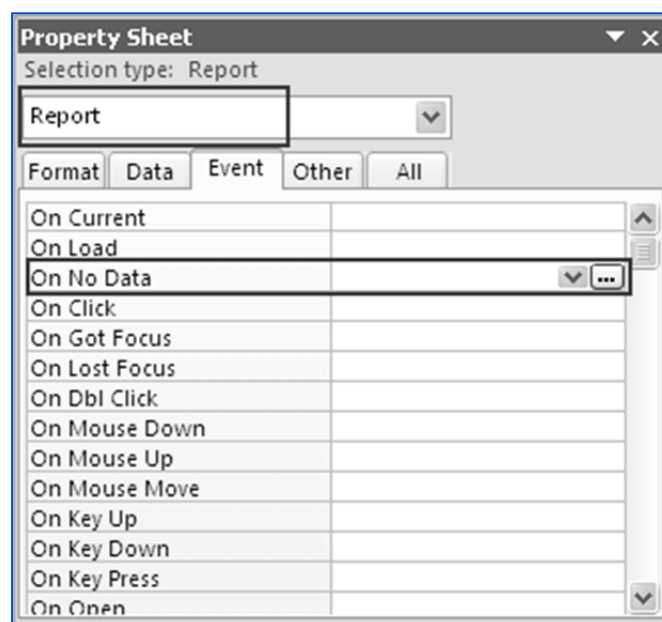

Fig. 2.5.8. Property Sheet of Report
2. Press *F4* to open the property sheet of report. Make sure that the report is selected in the *Selection Type* textbox. On the *Event* tab, select the property *On No Data*, as indicated in Fig. 2.5.8.